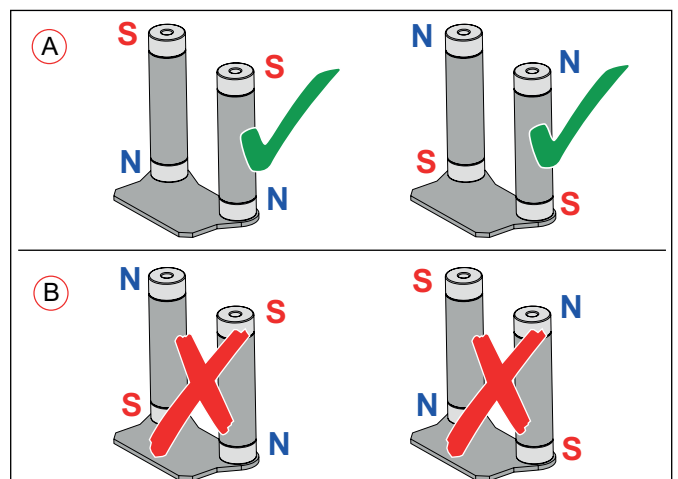

Fig. 34: Permissible alignment (A) and impermissible alignment (B) of the poles of the magnetic cores.
- ▶ It is important that the magnetic alignment of both magnetic cores is the same. It does not matter whether the north or south pole is at the top or bottom. See Fig. 34.
- ▶ In case of doubt, use a magnetic pole finder to determine the correct magnetic direction of the magnetic cores according to Fig. 34.